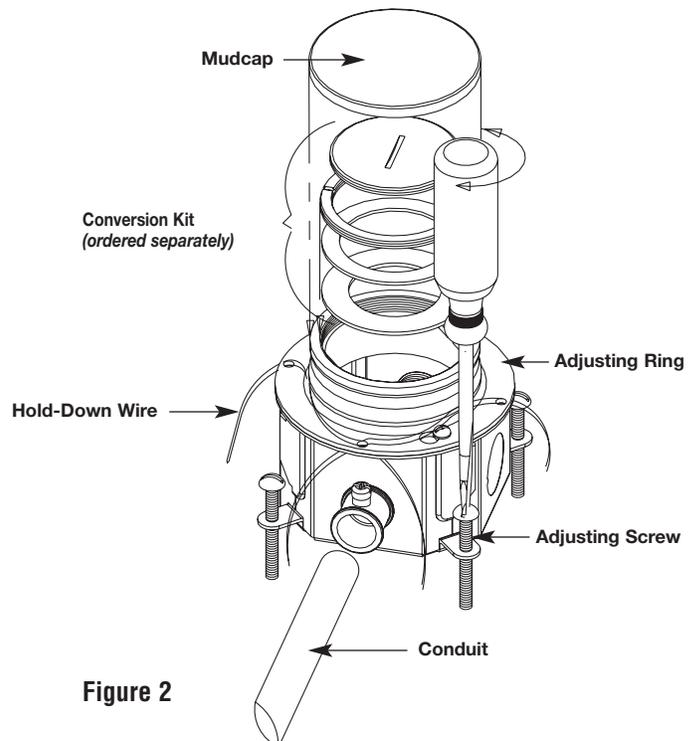

Figure 2
3. With wrench provided (supplied with 800LCK and 800CILCK) attach conversion kit to adjusting ring (see Figure 2).
4. Using adjusting screws provided, adjust box so that top of box is flush or slightly below screed line (see Figure 2).
5. Secure box to subfloor using wire or nails through the holes adjacent to the assembly screws. Once positioned, connect conduit to fittings (see Figure 2).
6. Place mudcap on adjusting ring (see Figure 2).